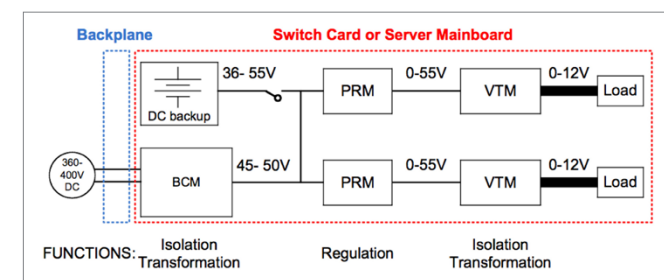

Figure 3: FPA with High Voltage DC infrastructure block diagram
- FPA flexibility is also evident when a high voltage DC supply is available: in this case, by simply substituting the Adaptive Cell PFM block with a High Voltage Bus Converter module (BCM), the same system can be efficiently powered, as shown in Figure 3.